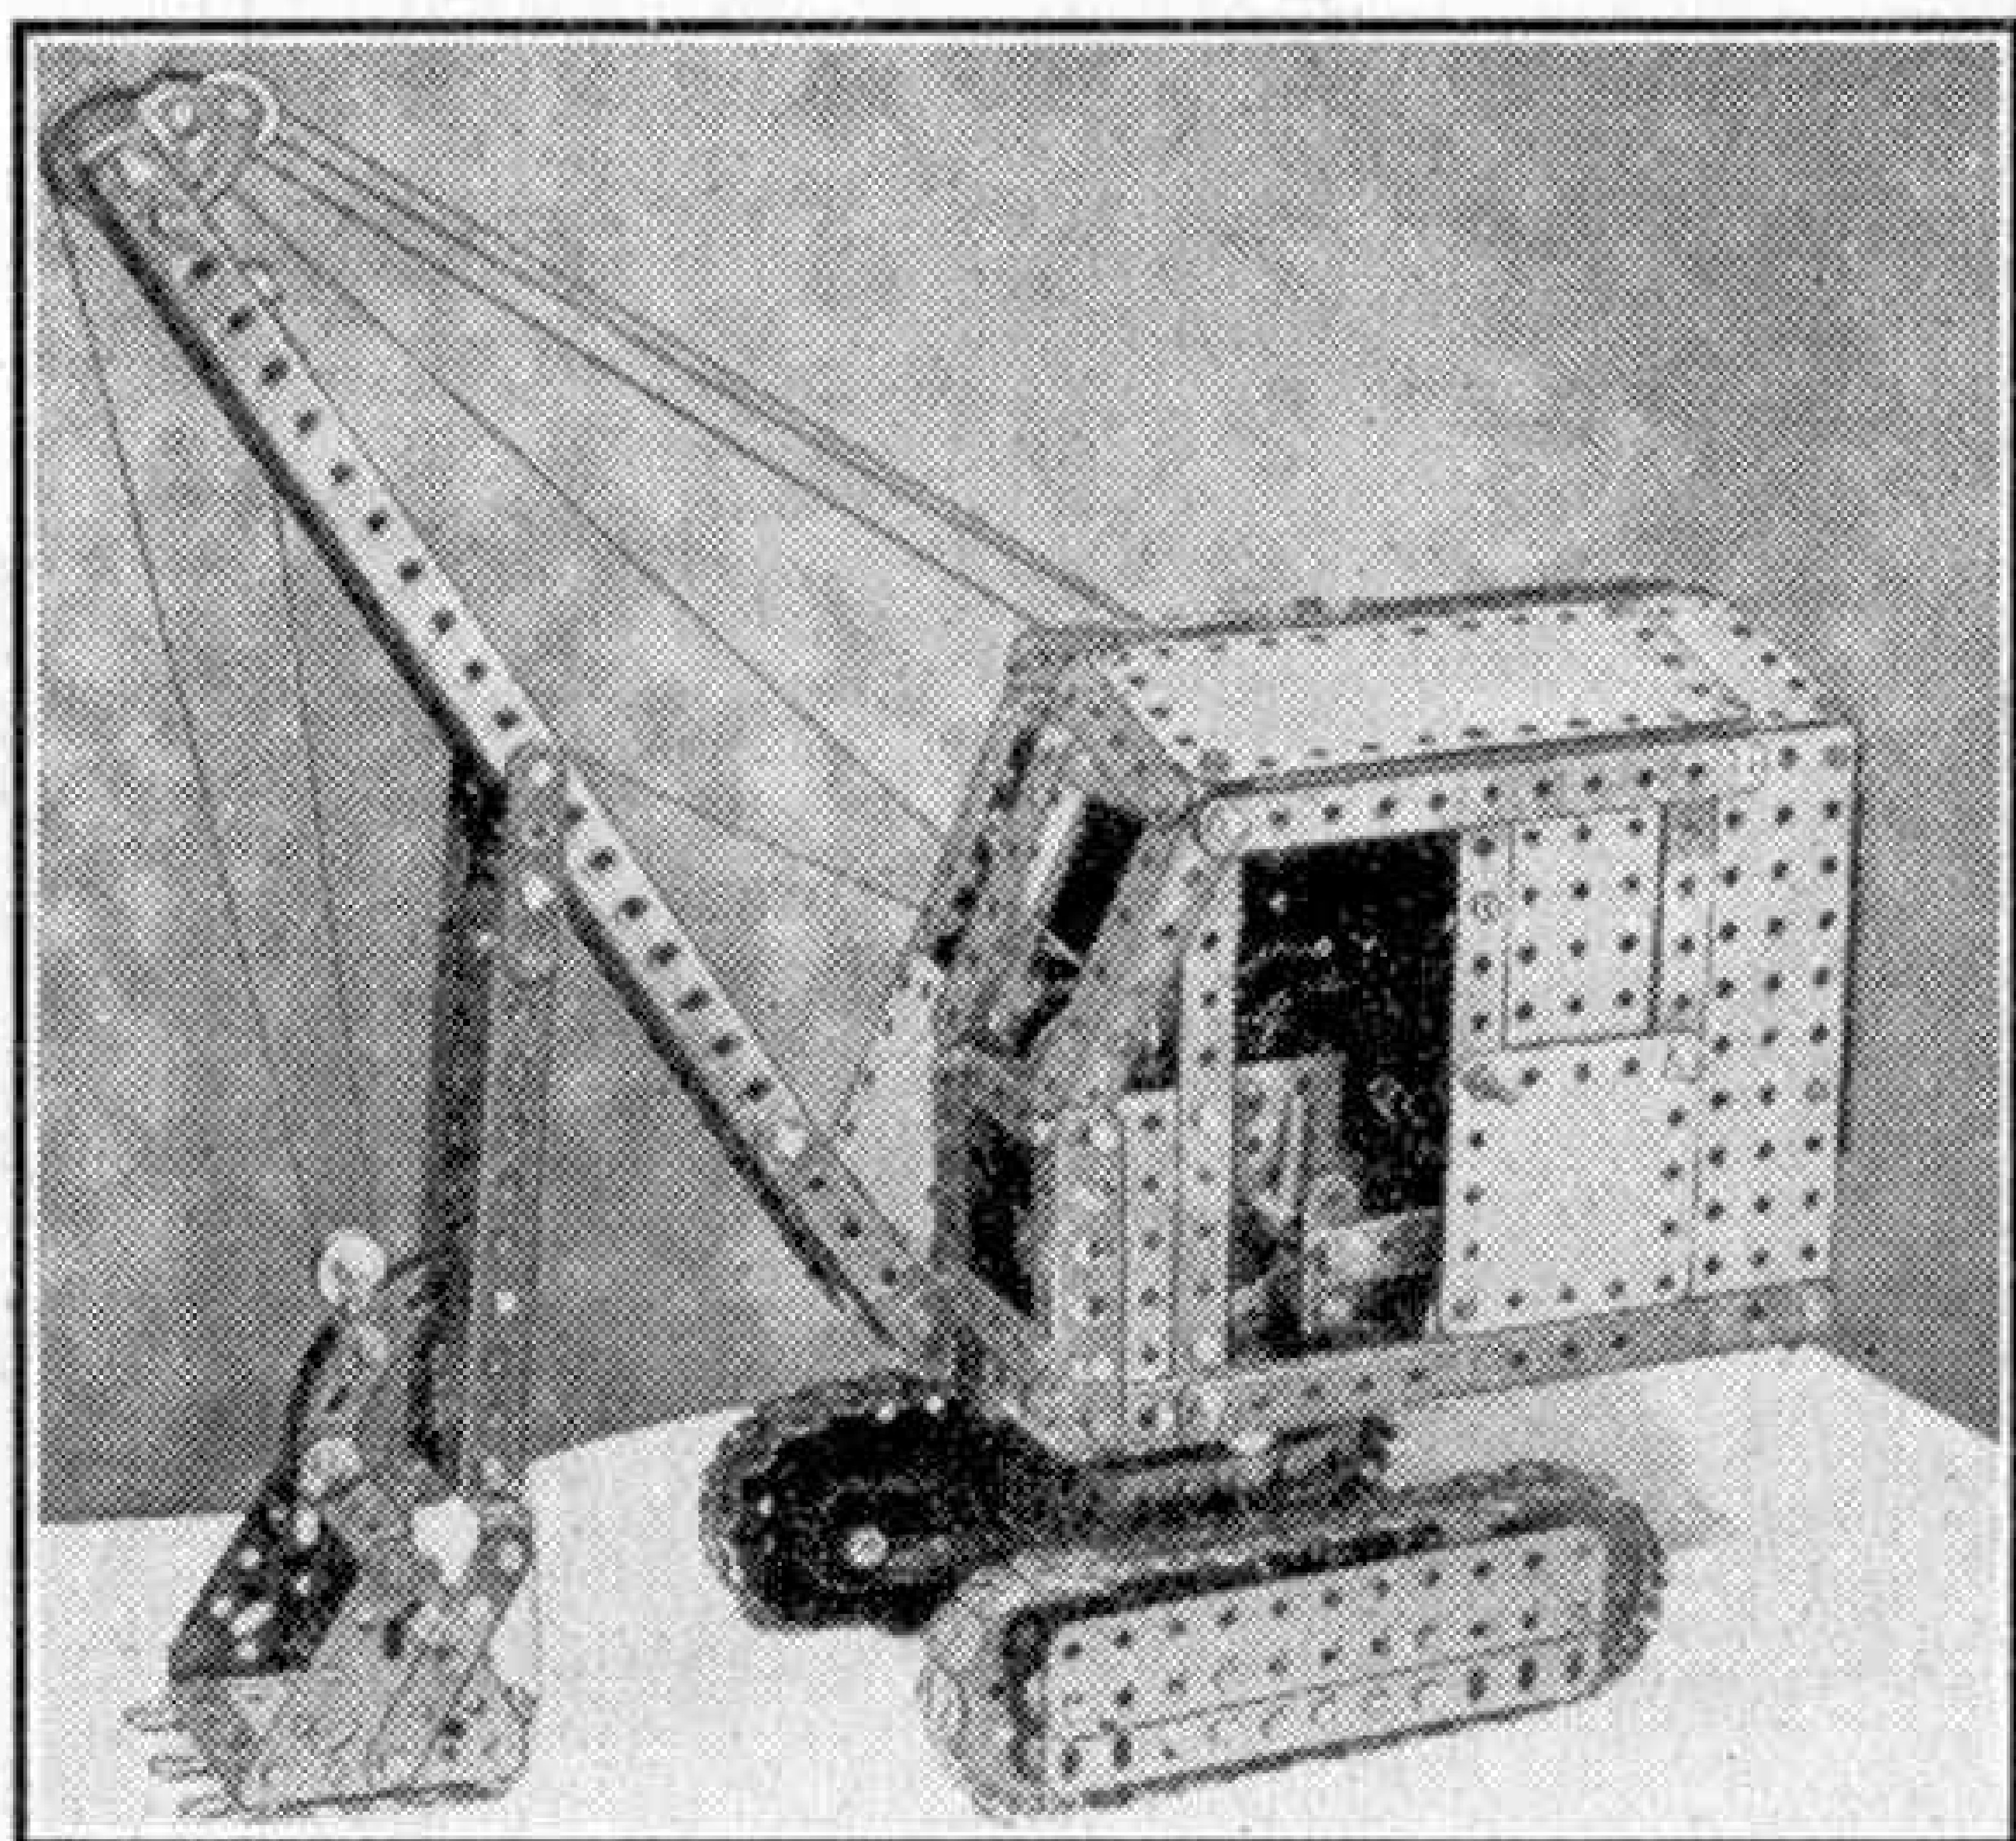

Fig. 4. This model won Second Prize in the Home Section. It was built by B. R. Lay, Horsham.
B. R. Lay, who was awarded Second Prize in the Home Section, not only made an excellent model (Fig. 4), but also produced some very good drawings of it, and went to a great deal of trouble in preparing and assembling his entry. Priestman Bros. Ltd. were most impressed with his work, and in appreciation decided to give him an extra special merit prize.